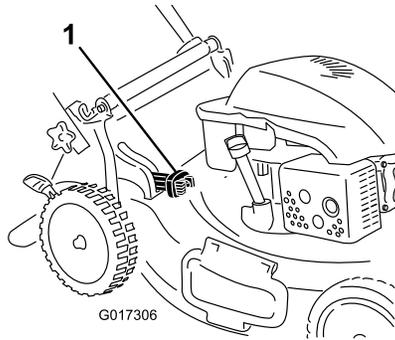

Figure 23
- For bagging the grass and leaf clippings, press the button on the bag-on-demand lever and move the lever forward until the button on the lever pops up (Figure 23).